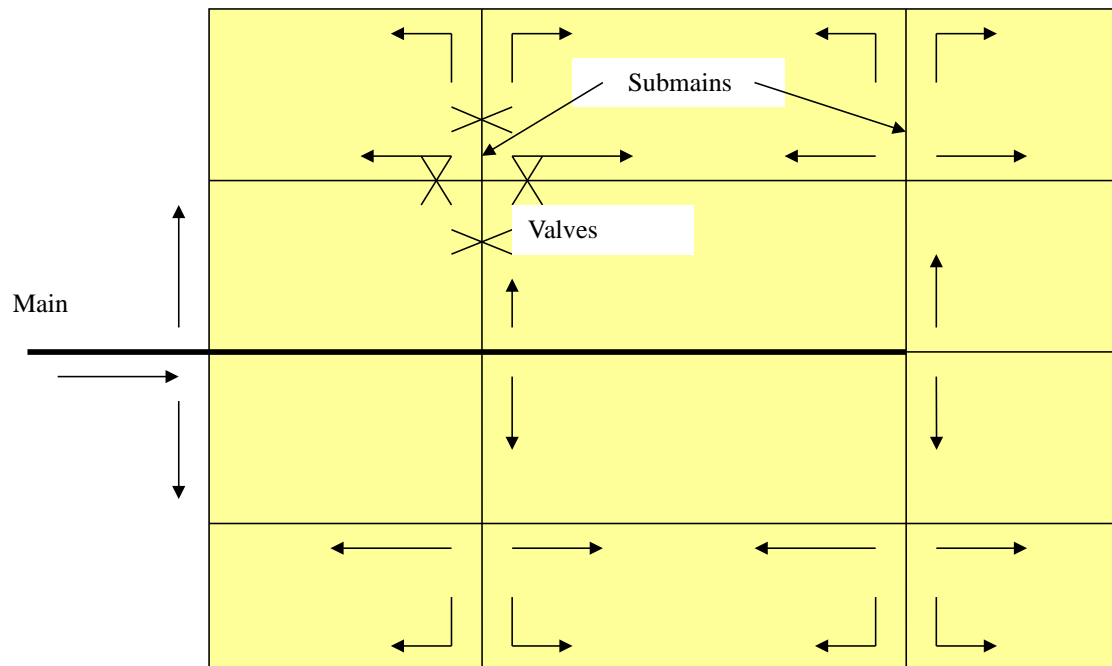

Figure 9: Grid Iron System
- ✓ **Grid Iron System** (Figure 9)